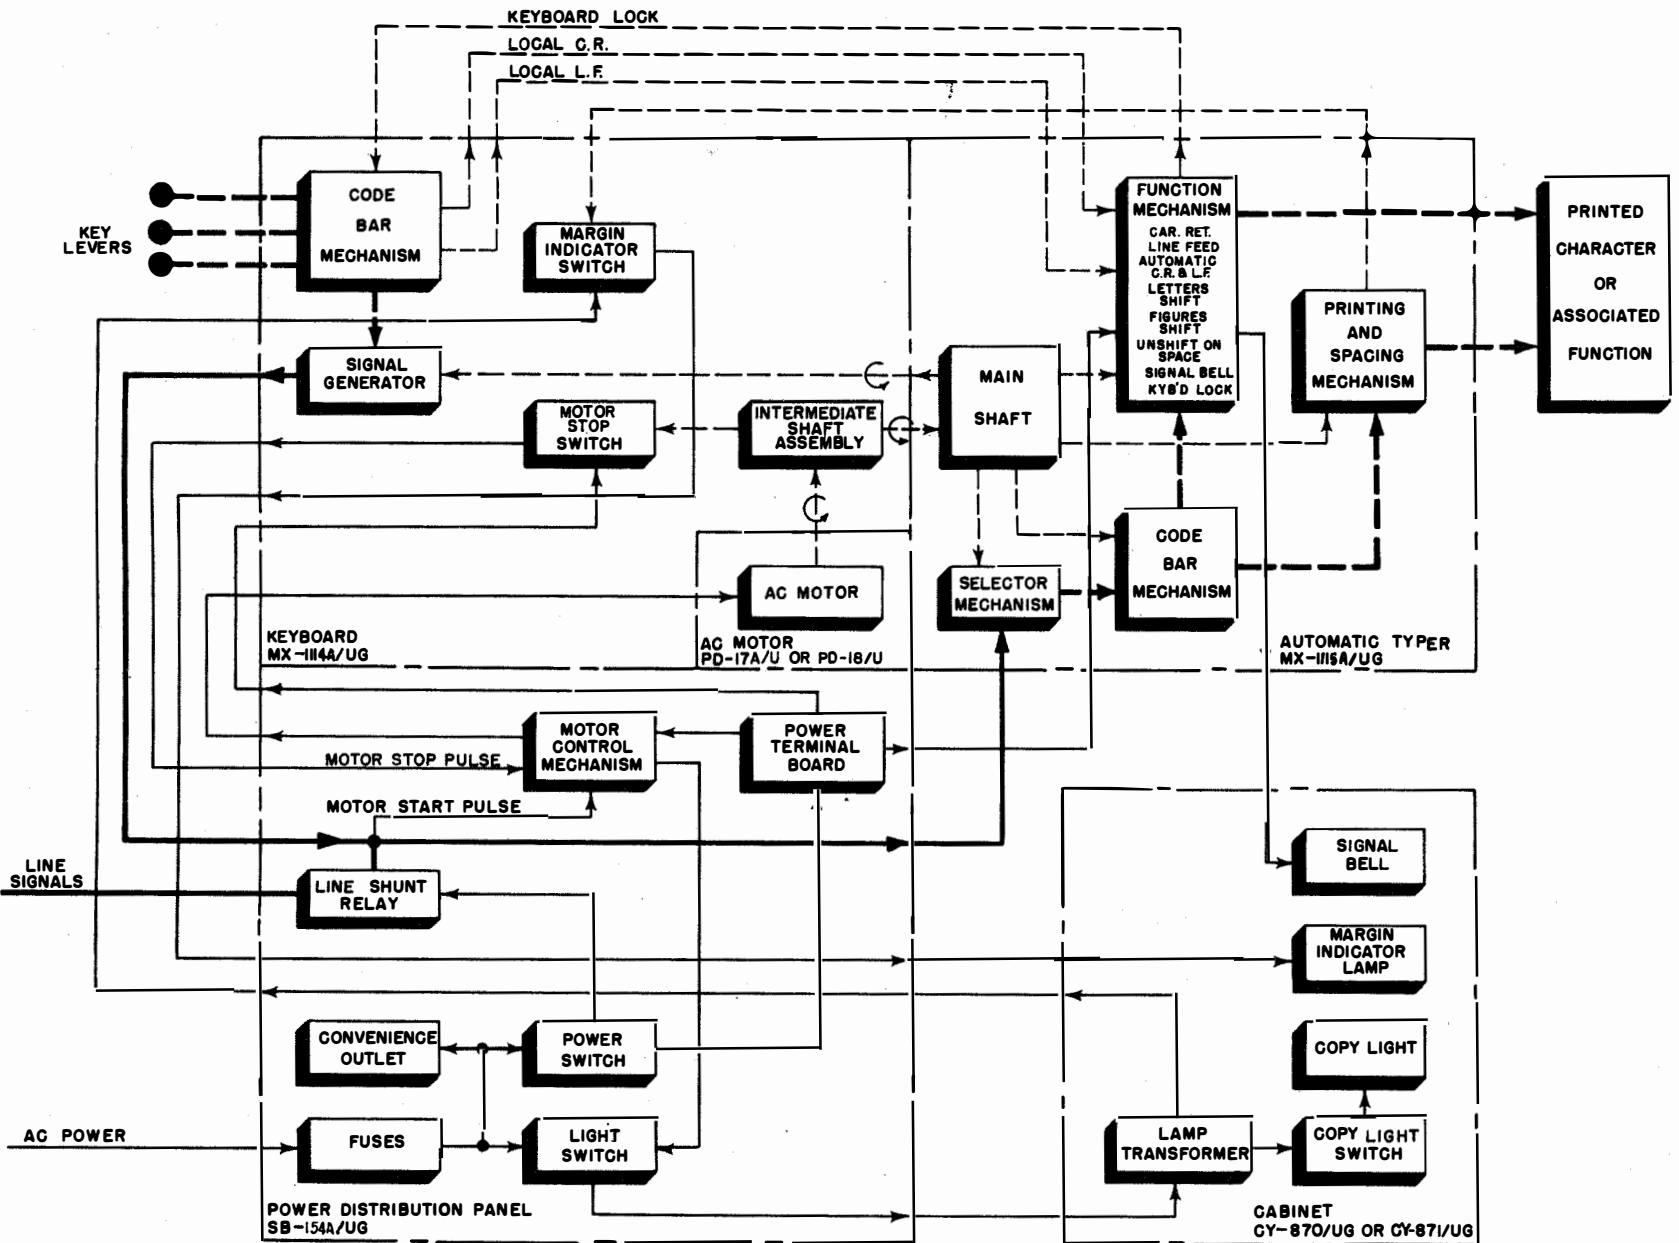

Figure 2-1. Teletypewriters, TT-47A/UG, TT-48A/UG, TT-69A/UG & TT-70A/UG, Functional Block Diagram
b. The general electrical and mechanical relationships of the units which make up the Teletypewriters are shown in figure 2-1, a functional block diagram.